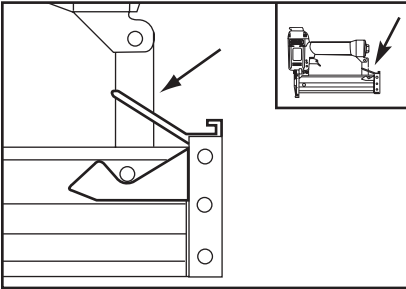

Figure 1. Releasing magazine latch.
2. Push the magazine latch in the direction shown in **Figure 1**.